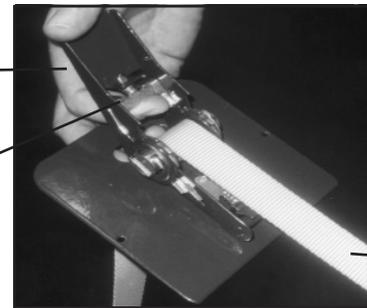

Figure 4
7. To release the Ratchet tension, raise the Handle (A), pull each of the Spring Plates (B) back from the Ratchet center so the Handle locks fully open. Pull the Strap (#2) out of the Ratchet in the opposite direction that it was fed into the slot of the Ratchet. **See Figure 4.**